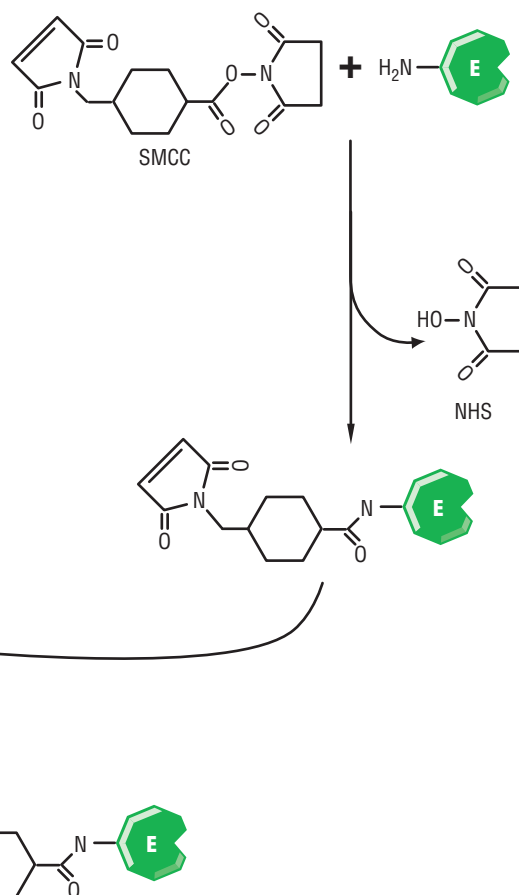

Figure 8. Three strategies for maleimide-mediated conjugation of enzymes.
**Maleimide activation** – The heterobifunctional cross-linker SMCC (Product # 22360) and its water-soluble analog Sulfo-SMCC (Product # 22322) have more general utility in preparing immunologically active horseradish peroxidase or alkaline phosphatase conjugates. They are most useful when preparing conjugates of reduced IgG and F(ab')2, because these methods involve the initial step of preparing a maleimide-activated (sulfhydryl-reactive) enzyme derivative. Studies have shown that the two-step maleimide method is superior to glutaraldehyde or metaperiodate methods for enzyme conjugation (Figure 8). The maleimide method gives higher yields with less polymerization, producing a conjugate preparation with superior immunoassay characteristics.
Maleimide-activated enzymes can be prepared using the heterobifunctional cross-linker Sulfo-SMCC. This reagent contains an *N*-hydroxy-sulfosuccinimide (Sulfo-NHS) functional group and a maleimide functional group and it is water-soluble due to the presence of the sulfonate (-SO3-) group on the *N*-hydroxysuccinimide ring. The sulfonate group also contributes to the stability of the molecule in aqueous solution. A study of the hydrolysis rate of the maleimide functional group from Sulfo-SMCC showed that it is less prone to hydrolysis to the maleamic acid than the non-sulfonated SMCC. The maleimide groups of Sulfo-SMCC exhibit no decomposition at pH 7 at 30°C within 6 hours. The Sulfo-NHS ester group reacts with primary amines on the enzyme surface to form a stable amide bond. After this first step of conjugation, the enzyme will have maleimide groups on its surface that react optimally toward sulfhydryl groups between pH 6.5 and 7.5 to form stable thioether bonds. Maleimide-mediated conjugation strategies are summarized in Figure 8.